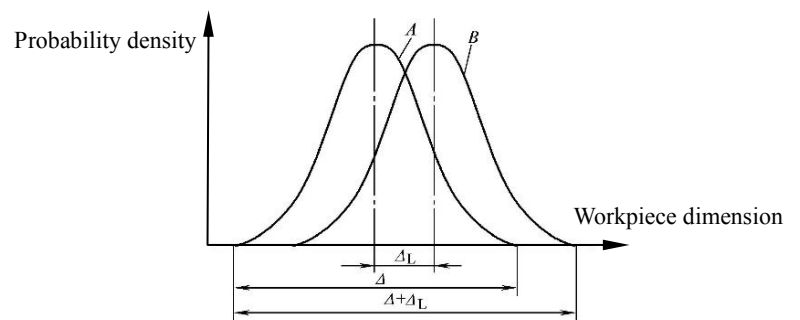

Figure 5
11. Machine separately two batches of workpieces on the machine tool with static adjustment method. The dimension distribution curves obtained are shown as A and B in Figure 5. Δ is the dimension distribution range; ΔL is the deviation of the distribution center of the two batches of workpieces and T is the process tolerance of the workpiece. Please analyze: (11 points)